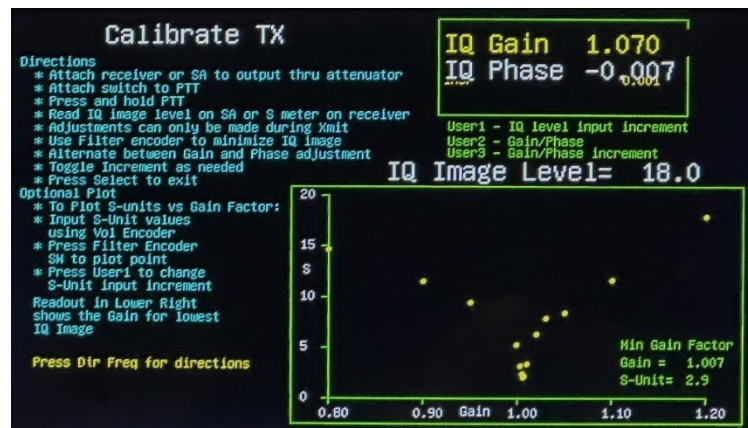

Figure 15 T41 Xmit IQ Gain plot
gain values. A clear minimum should be seen on the plot, along with the minimum plot value, as shown in Figure 15.
- Finally Press Dir Freq Button to display the on-screen Directions which are also shown in Figure 15.